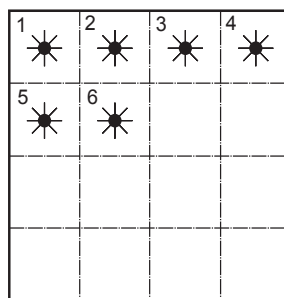

Fig.5.: LEDs 1 - 6 light up
- Press buttons 6 – 3 – 5 – 5 in sequence (Figure 5).
The selection level is active (Figure 5).